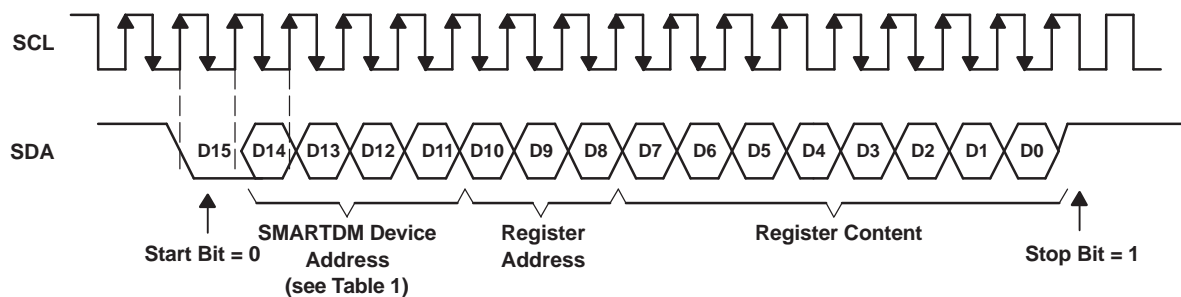

Figure 26. S²C Programming
The S²C is a write-only interface selected by programming bits D1-D0 of control register 2 to 01. The SDA input is normally in a high state, pulled low (START bit) to start the communication, and pulled high (STOP bit) after the transmission of the LSB. SCLK and FS must be active during register programming. Figure 26 shows the timing diagram of S²C. The S²C also supports a broadcast mode in which the same register of all devices in cascade is programmed in a single write. To use S²Cs broadcast mode, execute the following steps:
2. Write data to program control register as specified in Figure 26 with bits D14-D11 = XXXX (don't care).